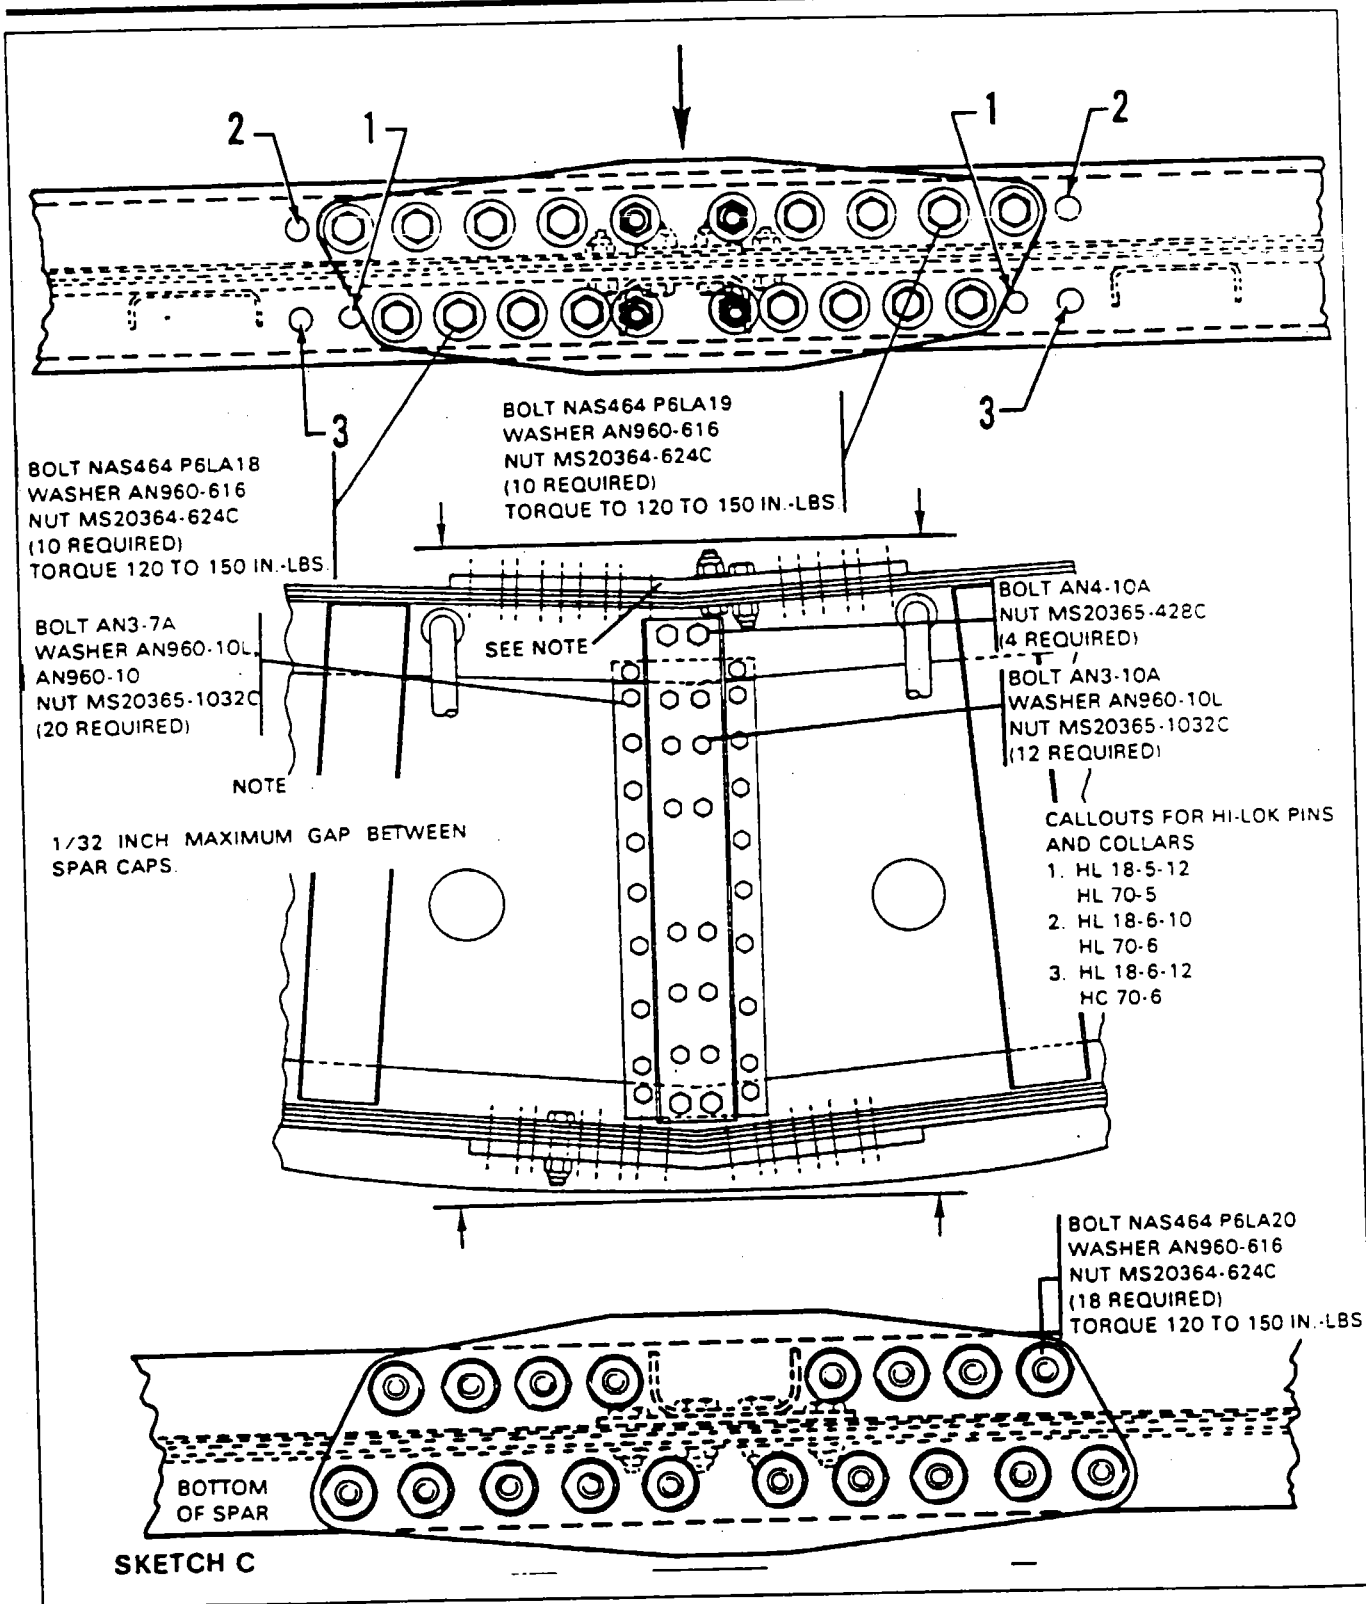

Figure 57-1. Wing Installation (cont.)
REMOVAL OF WING. (Refer to Figure 57-1.)
INSTALLATION OF WING. (Refer to Figure 57-1.)
12. Tighten bolts of all attachment fittings, plates, etc. (Refer to Figure 57-1.)